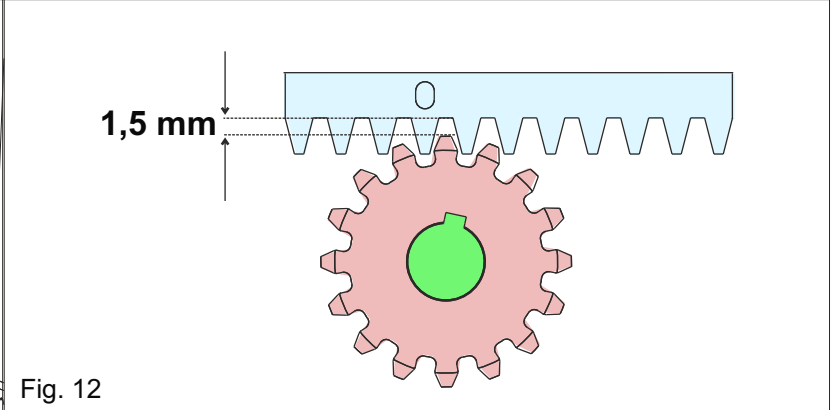

Fig. 12
- 5.6.** To avoid that the gate weights down the pinion - Fig.12 - lift up the whole rack about **1,5 mm**.